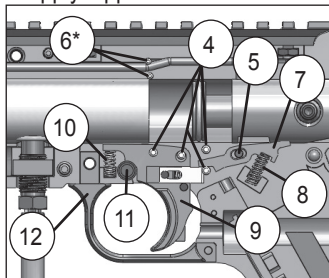

Figure 15:
7. Remove the Sear (7) and Sear Spring (8). Inspect parts for damage and replace if necessary. For reassembly, note that the black Pin (5) is for the Sear (see Figure 15).
1. Install the four Trigger Pins (4). Install the black Sear Pin (5). Install two Linkage Arm Pins* (6) shown in Figure 15.
2. Place the Trigger (9) onto the Trigger Pins. Install the yellow Trigger Spring (10). Make sure the Trigger Guard (12) is in place.
4. Place the Sear (7) onto the Sear Pin. Install the green Sear Spring (8) as shown in Figure 15.
5. For **ACT** markers, refer to the Parts Diagram on pages 18-19, and install the Spring Cup* (51), Upper Spring Long* (53), Spring Pin* (54), making sure the longer end of the Spring Pin goes into the Rear Bolt. Install the Upper Spring Short* (55). Install the Bolt Handle (47), Drive Spring* (52) and Guide Pin* (48), Buffer O-Ring (56), and the End Cap (31).
6. For **non-ACT** markers, refer to the Parts Diagram on pages 24-25, and install the Rear Bolt Plug (non-ACT #50, ACT markers do not have a rear bolt plug), the Bolt Handle (47), Drive Spring* (52) and Guide Pin* (48), Buffer O-Ring (56), and the End Cap (31).
7. If previously removed, reinstall the two Air Supply Adapter Nuts (13).
8. Set the Left Front Receiver half (23) onto the marker. Install and tighten one receiver screw (26).
9. Install the Front Grip (25). Secure with one long receiver screw (27).
10. Place the Left Rear Receiver half (32) onto the marker. Insert five Receiver Screws (24) and fasten finger-tight. For ease of installation, tighten the bolt over the Trigger first. Tighten all Receiver Screws using the included allen wrench.
11. Attach the Air Supply Adapter (35) with two screws (36 and 37). NOTE: The short ASA screw (36) goes in front.
12. Apply Tippmann Certified Marker Oil onto the Barrel O-Ring* (39), insert the Barrel (38) and carefully screw it in.
13. Slide the Feed Elbow (40) pins into the Right Receiver Half bosses and rotate up until the Front Sight (19) holds it in place.